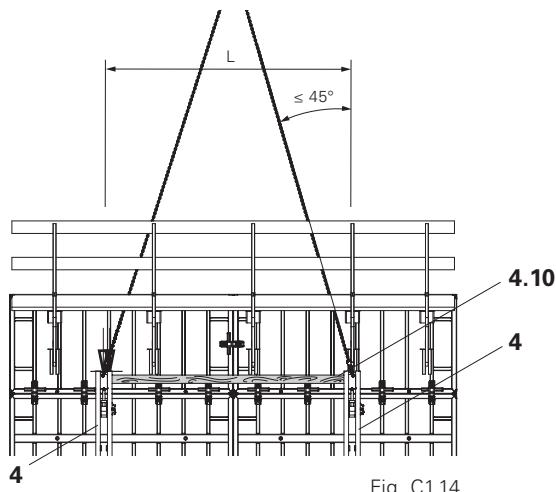

Fig. C1.14
In order to prevent the strongbacks from being pulled out of line during the lifting process due to the redirection of forces, clamp a suitable piece of timber (4.10) as a compression brace between the top ends of the strongbacks (4). (Fig. C1.14)